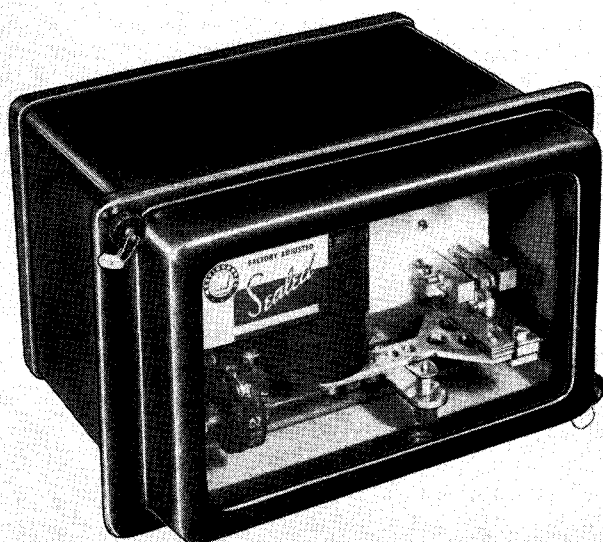
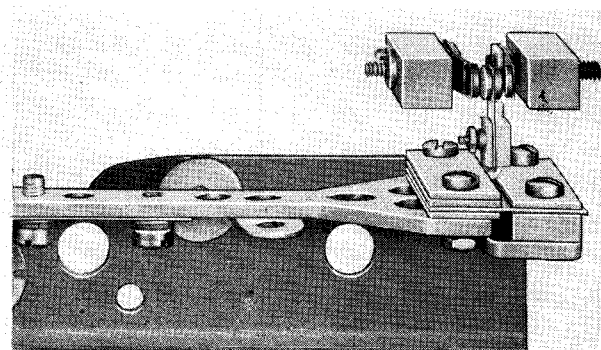

FIG. 1. Type SJS Voltage Regulating Relay
FIG. 5. Hinge Spring Assembly
**Voltage Regulating Relay.** Detailed pictures of the SJS voltage regulating relay are shown in Figs. 1, 2, 3, and 4. The main coil, mounted on the front of the Micarta® base, provides a balance pull on the armature at a specific voltage. A ballast reactor, in series with the main coil to minimize temperature effects, is mounted on the rear of the Micarta® base. The armature which provides the voltage sensing movement is supported by a hinge spring assembly as shown in Fig. 5. The hinge spring is of reinforced, solid leaf construction, held to close tolerances in production to obtain the cor-